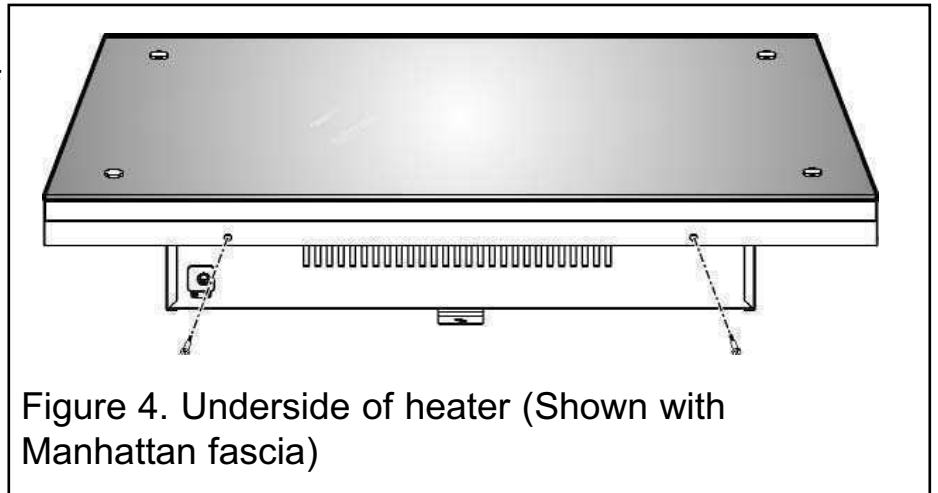

Figure 4. Underside of heater (Shown with Manhattan fascia)
- The fascia is secured using the two knurled screws. These are located as in figure 4.
- Remove the fascia. To do this unscrew and remove the two knurled screws on the underside of the fascia (See figure 4). Hold the sides of the fascia firmly, gently pull the base of the fascia clear of the heater body, then lift upward to remove.